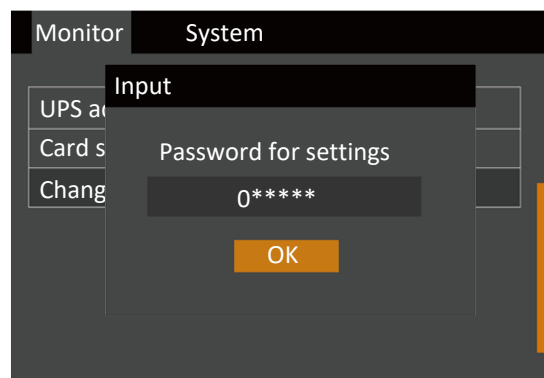

Figure 5-24 Password for Settings
3. Press the  key, the interface shown in Figure 5-24 is displayed.